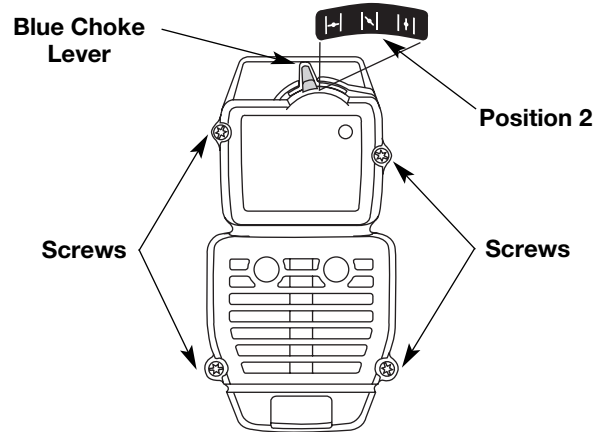

Fig. 32
NOTE: The choke lever must be in Position 2 (Fig. 32) to remove the air filter/ muffler cover.
2. Remove the four (4) screws securing the air filter/muffler cover (Fig. 32). Use a flat blade or T20 Torx bit screwdriver.
- Insert the four (4) screws into the holes in the air filter/muffler cover (Fig. 32) and tighten. **Do not over tighten.**